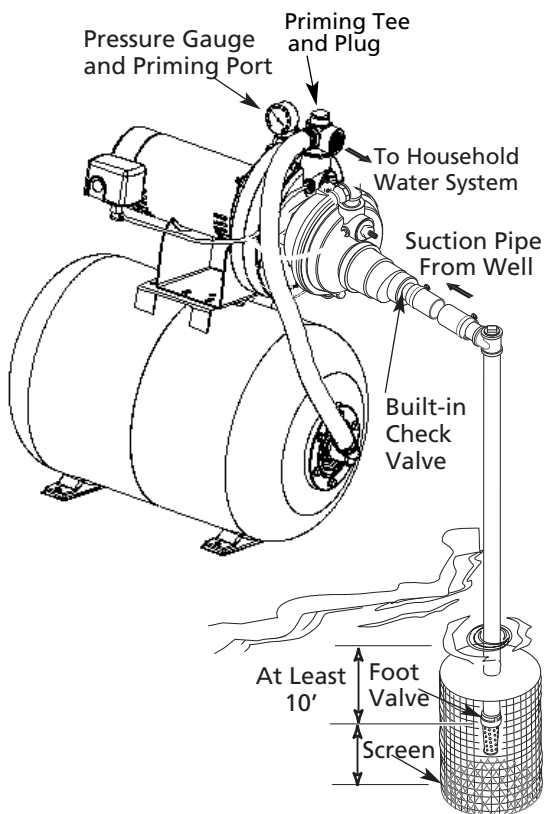

Figure 7 – Surface Water Installation
3. Assemble a foot valve and suction pipe (See Figure 7, page 10). Make sure that the foot valve works freely. Use PTFE tape or a PTFE-based pipe joint compound on threaded pipe joints. Protect the foot valve assembly from fish, trash, etc, by installing a screen around it (See Figure 7).
- Install a priming tee, priming plug, and suction pipe to the pump (See Figure 7). Support the pipe so that there are no dips or sags in the pipe, so it doesn't strain the pump body, and so that it slopes slightly upward from the well to the pump (high spots can cause air pockets which can air lock the pump). Seal the suction